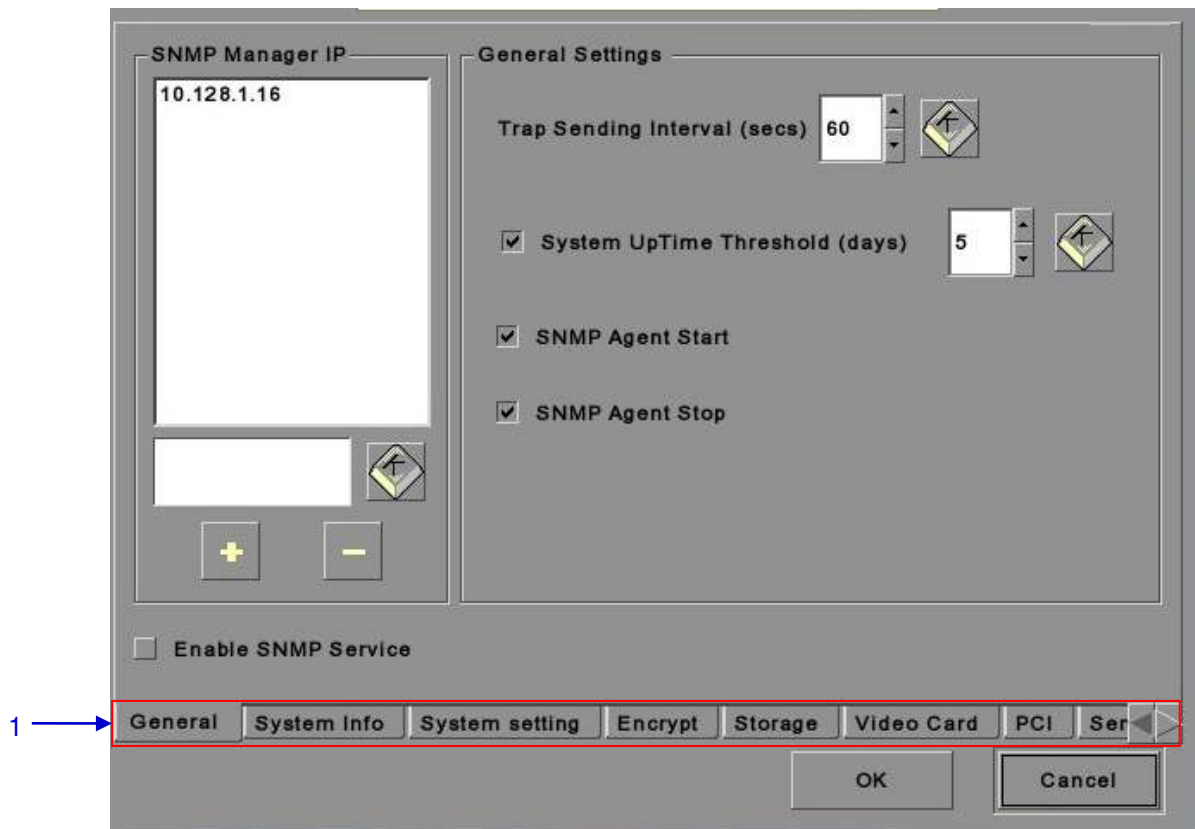

Figure 19: SNMP Configuration
- 1 On the **Configuration**, select **SNMP Setup**. A new window appears as seen in **Figure 19**.